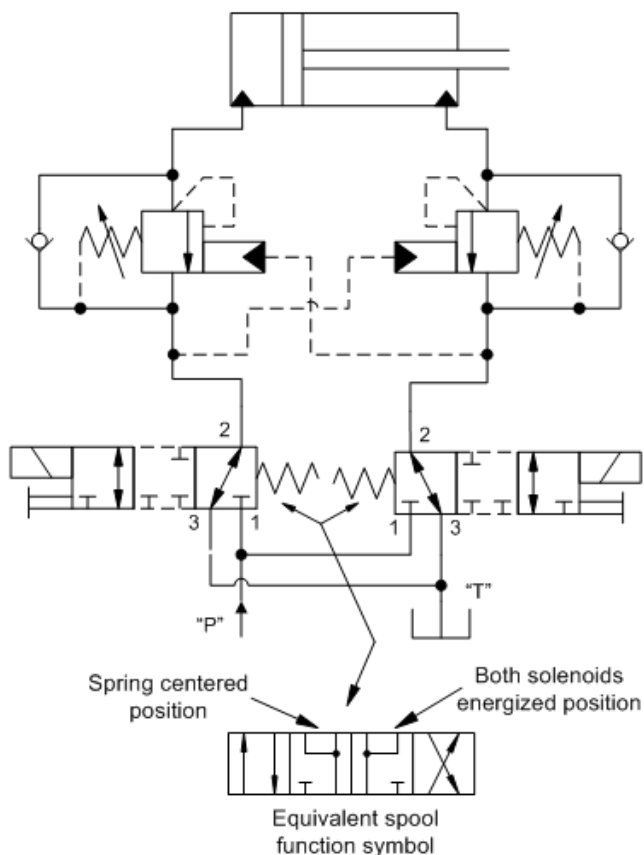

Figure 8.
- Two DMDAs can be used to create a 3-position, 4-way valve. *(Energizing each valve independently will allow the cylinder to extend or retract. Energizing both solenoids allows the cylinder to extend in regeneration mode.)* (See Figure 8.)